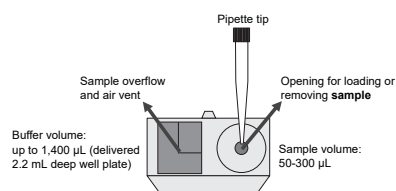
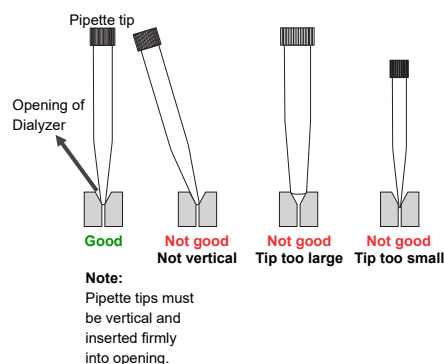

Figure 1 Load sample, top view
Figure 2 Load sample, side view
3. Add $300\ \mu\text{L}$ of dialysis buffer to each microdialysis slowly through the round opening of the device. See Figure 1 and Figure 2 for proper pipette placement.